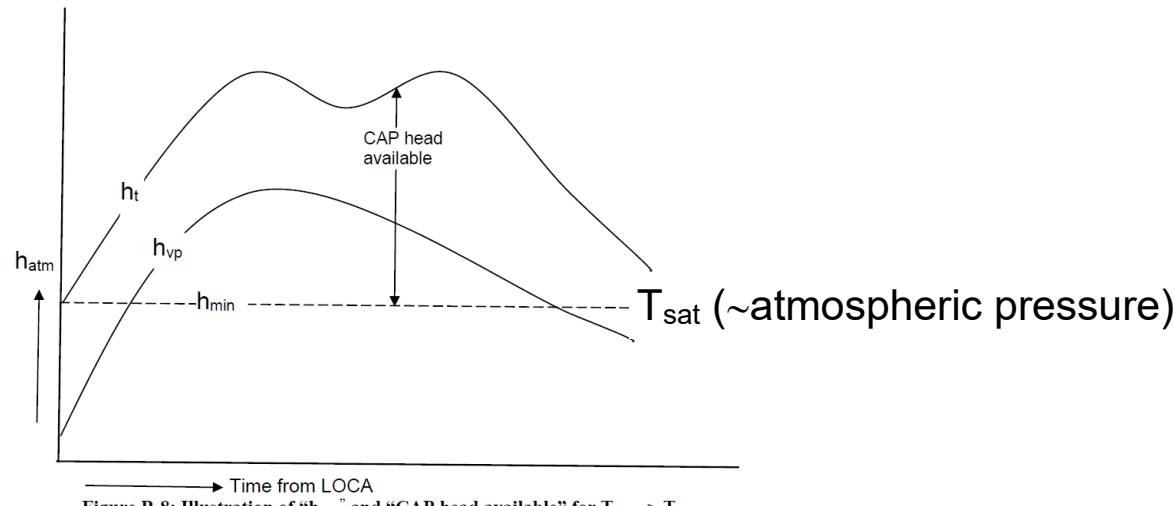

Figure B-8: Illustration of “ h_{atm} ” and “CAP head available” for $T_{pmax} > T_{sat}$
10. Illustration of h_{atm} and CAP Available (RG Section B-6, Figure B-8)